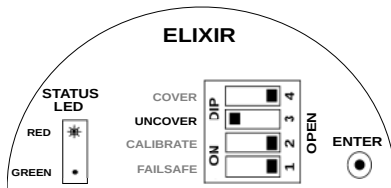

Figure 21: Uncover Delay Switch Position
2. Set the UNCOVER switch to CLOSE (Opposite of OPEN in a DIP switch) position as shown in Figure 21.